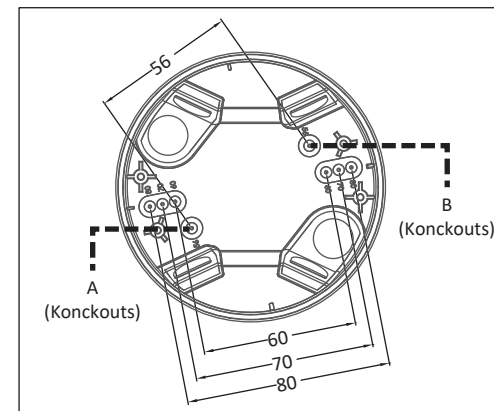

FIG.9
1. There are 4 pairs of knockouts with various distances from 56mm to 80mm on the bottom cover of combined surface mount box for different mounting applications (See FIG.9). Select two same figures on both ends for the corresponding distance for fixing. (See FIG.10)